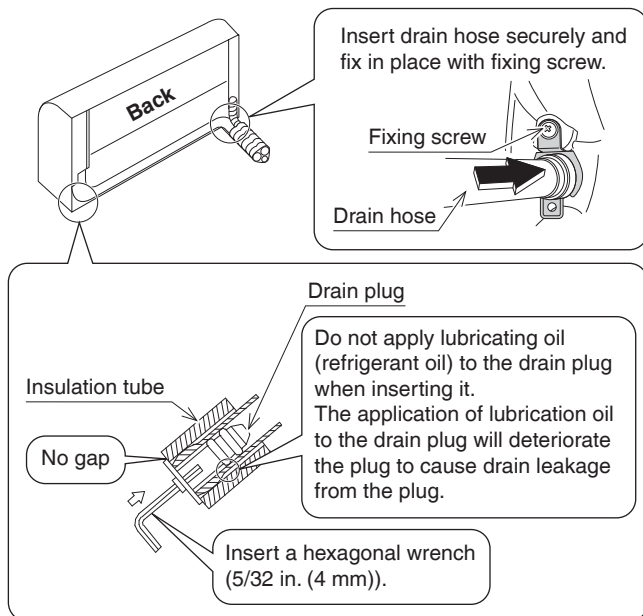

Fig. 16
- Switch around the drain hose and drain plug. (Refer to **Fig. 16**)